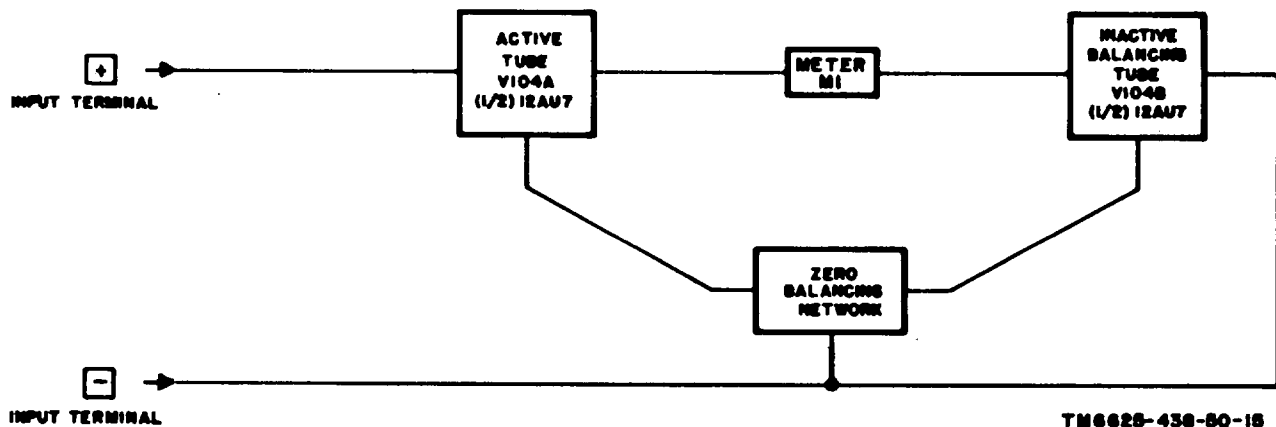

Figure 4-2. Balanced bridge, block diagram.
- (1) The voltage being measured is applied to the + and - input terminals and appears across the balanced bridge (fig. 4-2) consisting of an active tube (V104A), an inactive balancing tube (V104B), a meter (M1), and a zero-balancing network. In the differential voltmeter mode (NULL switch set to 10, 1, .1, or .01), the balanced bridge causes meter M1 to indicate the difference between the 0- to 500-volt reference power supply and the unknown voltage (voltage being measured). In the vacuum-tube voltmeter mode (NULL switch set to VTVM), the balanced